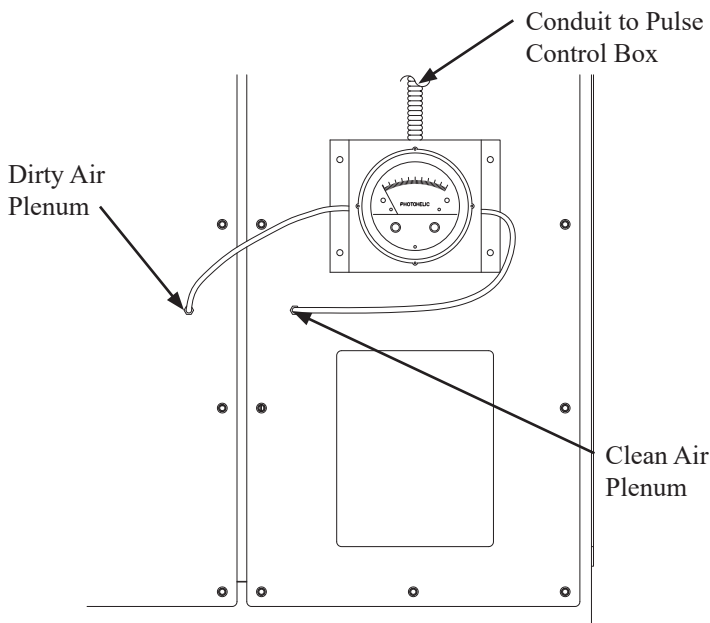

FIGURE 14
6. Replace the cover back onto the photohelic gauge and mount the bracket using the four (4) self-taping screws provided.
7. Using the 1/4" diameter clear tubing connect the "LOW" or "-" pressure port on the gauge to the clean air plenum and the "HIGH" or "+" pressure port to the dirty air plenum (Figure 14).